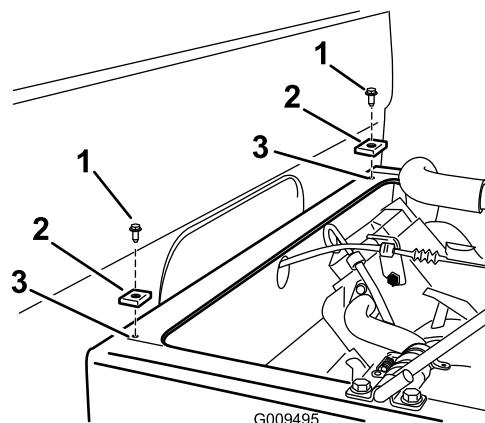

Figure 6
7. Install two rubber pads to the front of the frame using two screws (#10-24 x 3/4 inch) with tapered threads (Figure 6) at the holes shown.